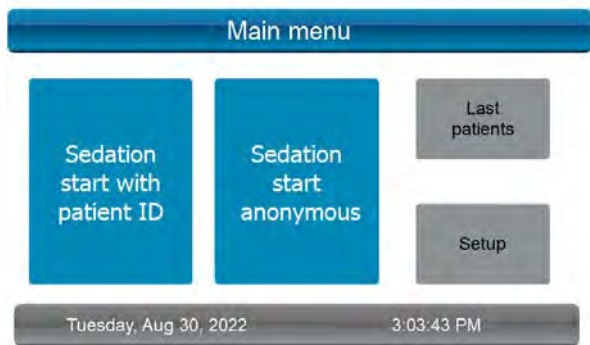

Figure 4: Main menu
8. Menu	Clicking on the „menu“ button opens a window: “Would you like to return to Main menu?” Click on “yes” to return to the main menu (see Figure 4). If you click “no” you will remain in the sedation menu.